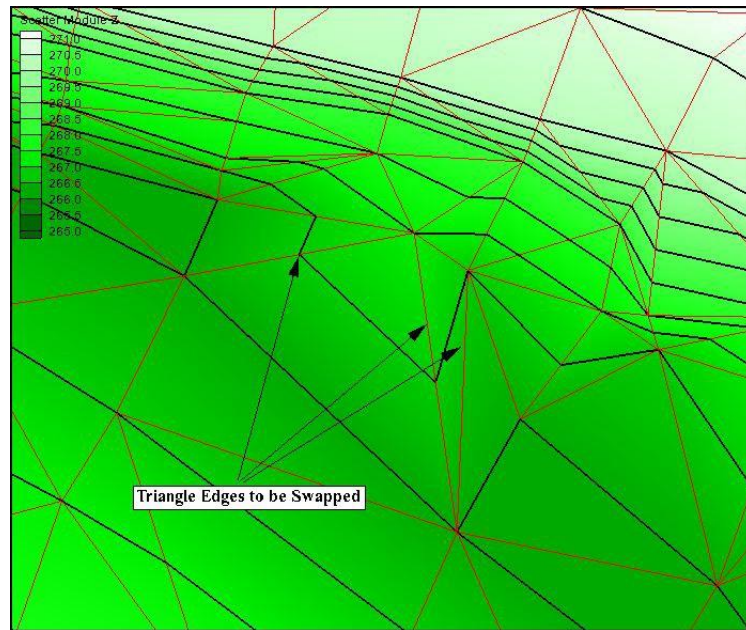

Figure 13 Zoomed out area showing triangle edges to be swapped
After zooming, the screen should look like Figure 13. Note the linear contour around the edges to be swapped. It is not smooth or straight. In fact, two contours actually converge to a single line. This is possible if a vertical cliff exists, but is not likely in this situation. Natural contours tend to be smooth. A good guideline is to swap edges so that linear contours are smooth.
16. Using the **Swap Edge**  tool, select one of the three edges identified in Figure 13.